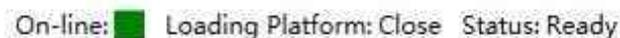

Figure D-2.1 View Submenu - Instrument Information Area
- ▶ If user check the **Show Instrument Information** option in the **View** submenu, the instrument information area will be displayed on the top right corner of main interface to remind user the current status of the connected real-time PCR system, as shown in figure D-2.1.